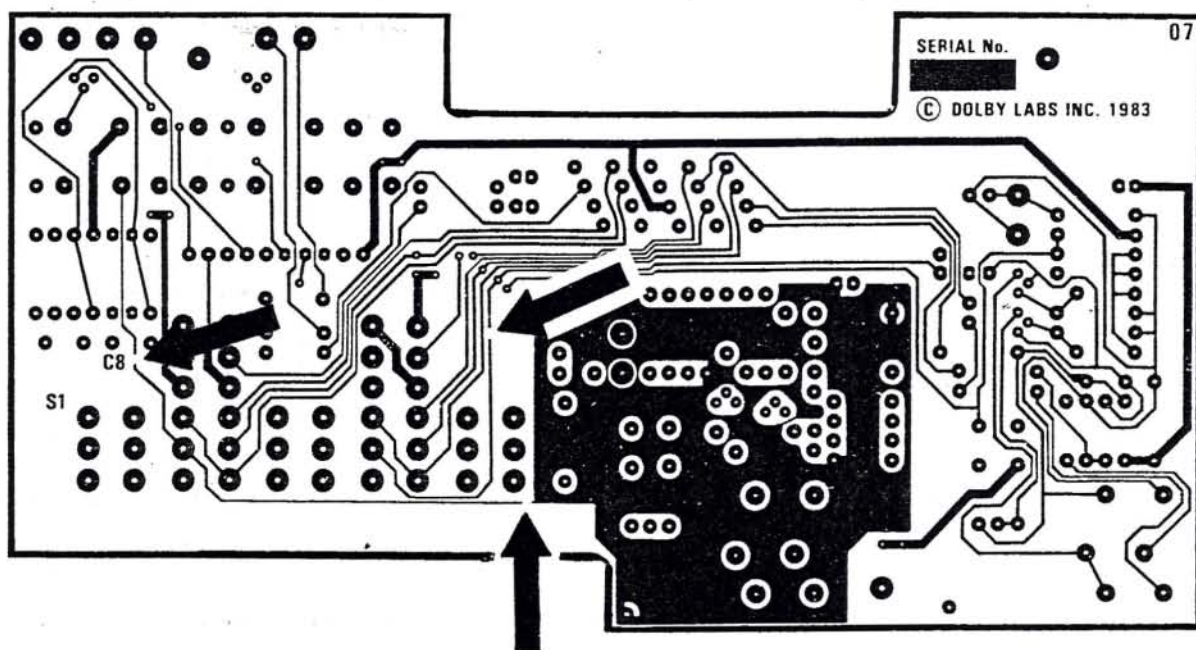

Fig. 1 Component Side - 3 cuts
- 6) Cut the tracks on the top (component) side of the board in the three places indicated in fig. 1.